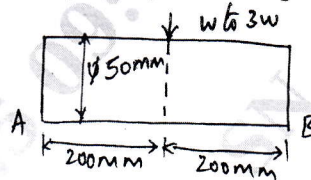

Fig.Q3(b)
- 3 a. Explain stress life (SN) curve for ferrous material. (10 Marks)
- b. Determine the maximum load for the simply supported beam cyclically loaded as shown below Fig.Q3(b). The ultimate strength is 700 MPa the yield point in tension is 520 MPa and the endurance limit in reversed bending is 320 MPa. Use a factor of safety of 1.25. The load, size and surface correction factor are 1, 0.75 and 0.9 respectively.